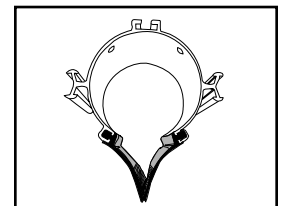

Fig. 7 When properly installed the ribbed side of the seal is on the inside of the rail and the seals forms a "V" shape at the bottom.
- Repeat this procedure for the other side of the rail. Be careful not to stretch the seal. See Fig. 7